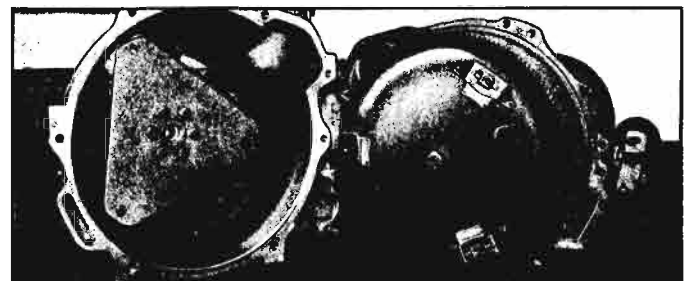

Fig. 6-19—Aligning Flex Plate and Converter
3. Align the converter with the flex plate (fig. 6-19), then pilot the converter hub into crankshaft. Align the mounting bolt holes in the differential carrier and converter housing, then secure the Transaxle to the converter housing by installing the top left bolt (11 o'clock position).